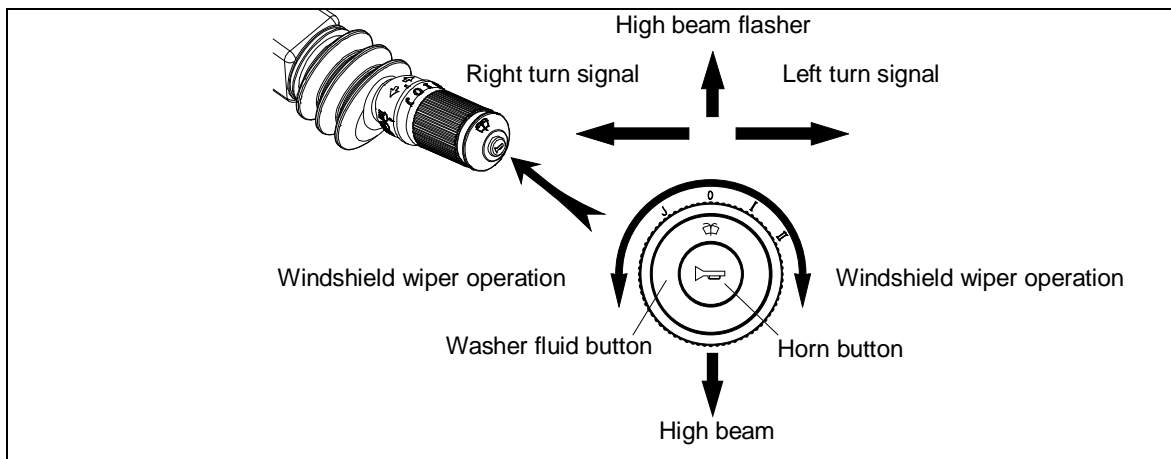

Figure 6-11 Wiper Control
5. **WIPER CONTROL** – Windshield wiper operation (4-speed settings: J – Timed Interval (Intermittent), I – Low Speed, II – High Speed, O – OFF). Push the button, on the end of the handle, to spray washer fluid onto the window. Push in the direction of the dash for the left turn signal. Pull in the direction of the operator for the right turn signal. Refer to Figure 6-11.